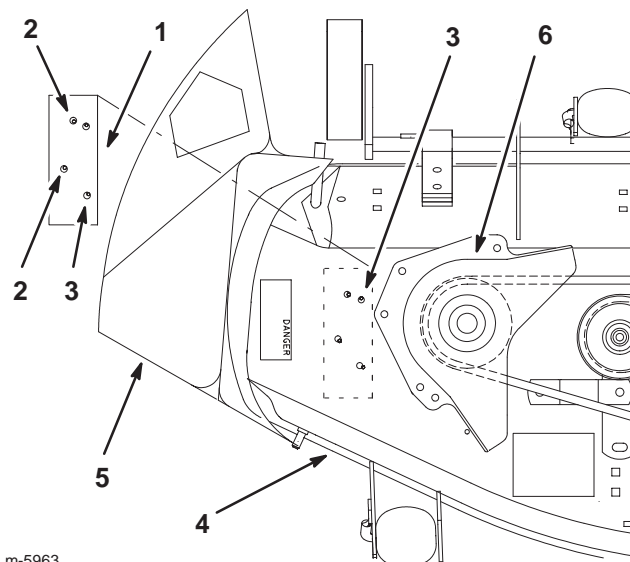

Figure 12
4. Center punch the 2 holes that are to be drilled and remove the template (Fig. 12).
7. Install the belt guard (Fig. 12).
2. Remove the existing belt guard (Fig. 12).
3. Place template number 1 on top of the mower and align it by matching the existing holes in the mower (Fig. 12).